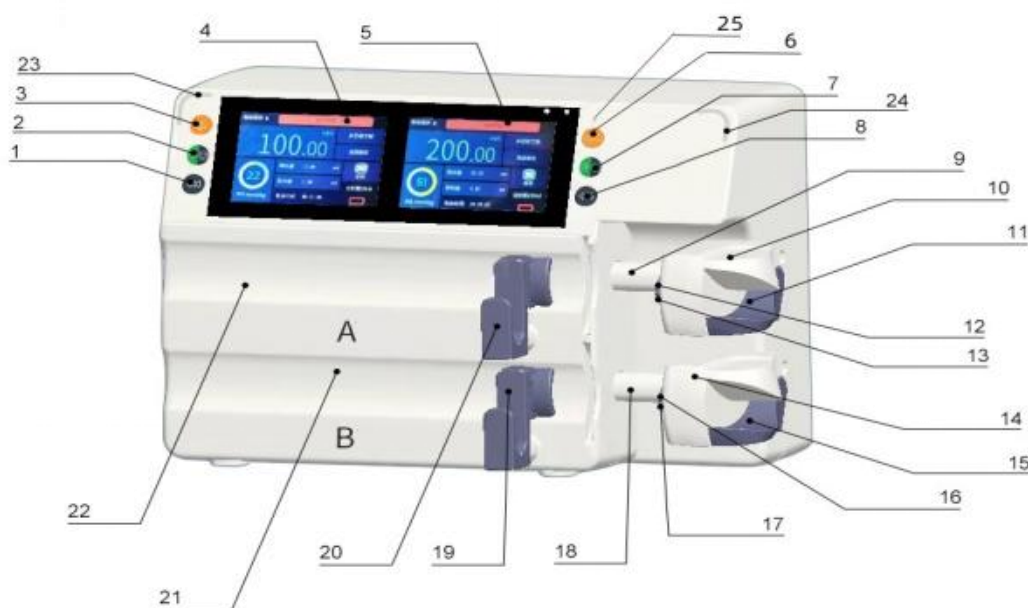

Figure 2-1
2.2.1 Front view: (Figure 2-1)